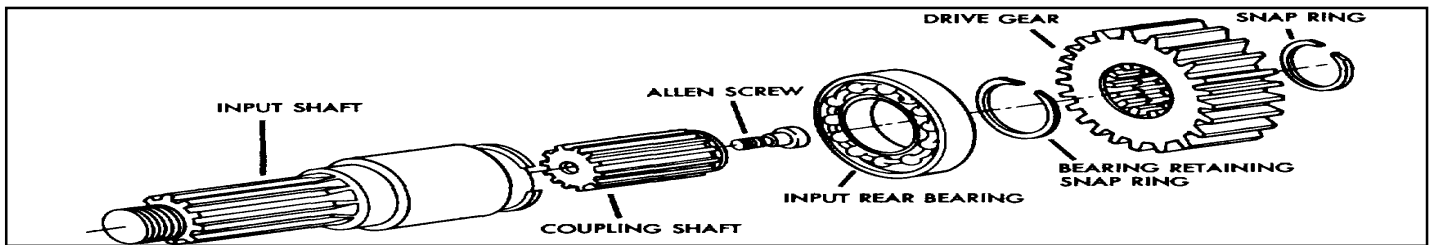

Fig. 6
1.9 Removal and Disassembly of the Input Shaft and Drive Gear Assembly (Fig. 6):